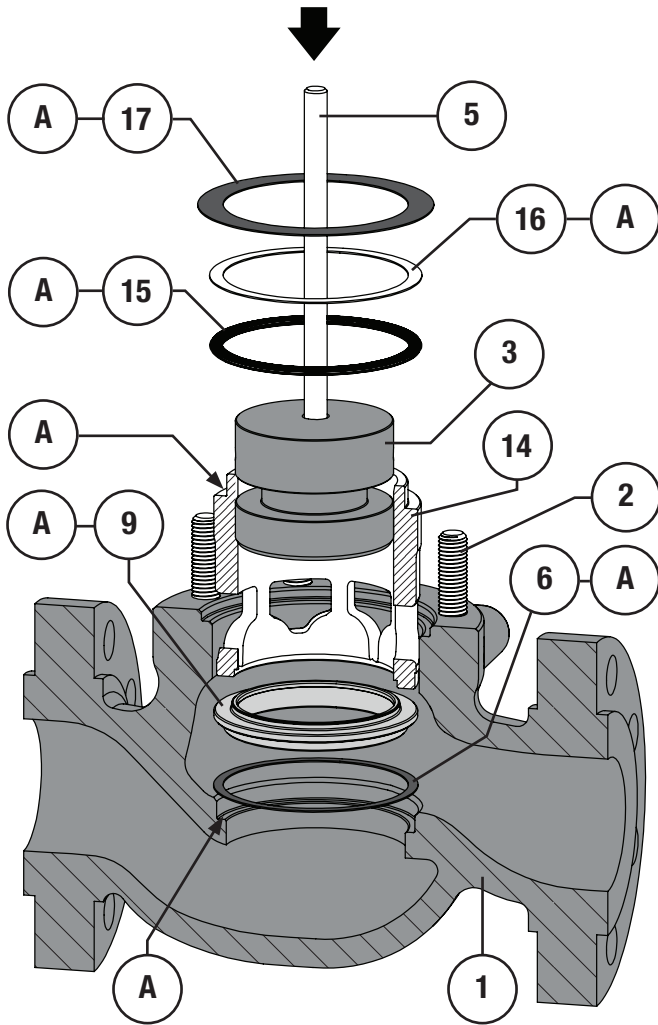

Figure 15 Trim Parts Assembly
- 1 Apply Permatex® Nickel Anti-Seize (Key A) to the seat ring pocket of the valve body (Key 1) and top surface of the seat ring gasket (Key 6). Install the seat ring gasket into the valve body (Key 1). Refer to Figure 15.
- 5 Apply Lubriplate® No. 105 (Key C) to the sides of the valve plug (Key 3), refer to Figure 15. Install the valve plug assembly into the cage (Key 14), align any alignment marks made during disassembly or lapping.
- 6 Apply Permatex® Nickel Anti-Seize (Key A) to the gasket surface of the cage (Key 14) or cage retainer (Key 44) and top surface of the spiral wound gasket (Key 15), metal shim (Key 16), and bonnet gasket (Key 17). Install the gaskets and shim as shown in Figure 15 for Low-Noise trim.